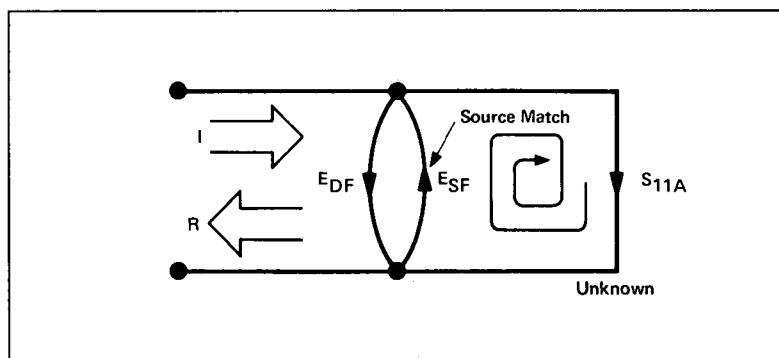

Figure 5-35
Since the measurement system test port is never exactly the characteristic impedance (50 ohms or 75 ohms), some of the reflected signal bounces off the test port, or other impedance transitions further down the line, and back to the unknown, adding to the original incident signal (I). This effect causes the magnitude and phase of the incident signal to vary as a function of S11A and frequency. Leveling the source to produce constant (I) reduces this error, but since the source cannot be exactly leveled at the test device input, leveling cannot eliminate all power variations. This re-reflection effect and the resultant incident power variation are caused by the source match error, ESF (Figure 5-35).